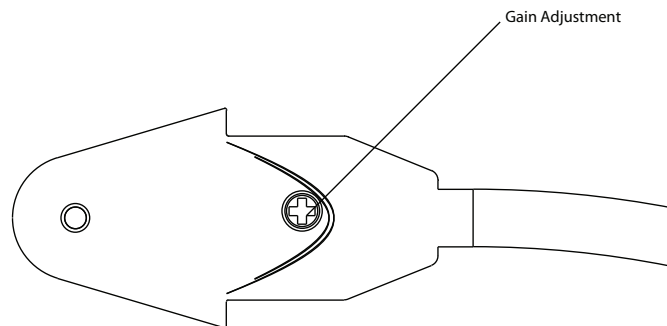

FIGURE 13. Airman 850 Headset, Boom Microphone Gain Adjustment Location
- >Turn the **gain adjustment control** in the microphone housing, using a small screwdriver. For more information, see Figure 13.
- If the output does not fall within the tolerances, adjust the gain pot as shown in Figure 13.